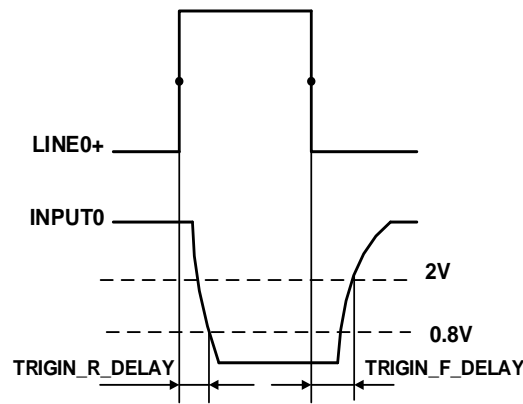

Figure 7-5 Parameter of opto-isolated input circuit
- Rising edge delay: <math><50\mu\text{s}</math> (0°C~45°C), parameter description as shown in Figure 7-5
- Falling edge delay: <math>< 50\mu\text{s}</math> ($0^{\circ}\text{C}\sim 45^{\circ}\text{C}</math>), parameter description as shown in Figure 7-5$